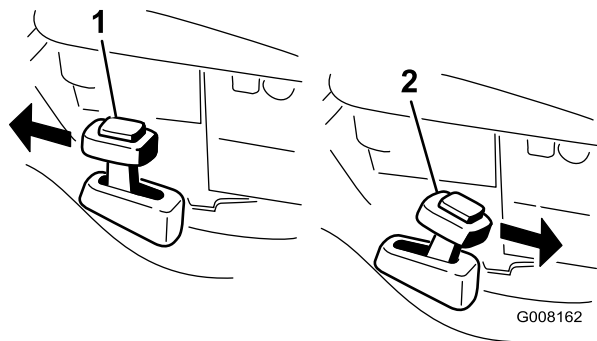

Figure 17
2. Press the button on top of the Recycling/bagging lever and move the lever to the **recycling** mode (Figure 17).
of the Recycling/bagging lever and move the lever to the **bagging** mode (Figure 17).
Note: The Recycling/bagging lever should be in the bagging mode (Figure 17).